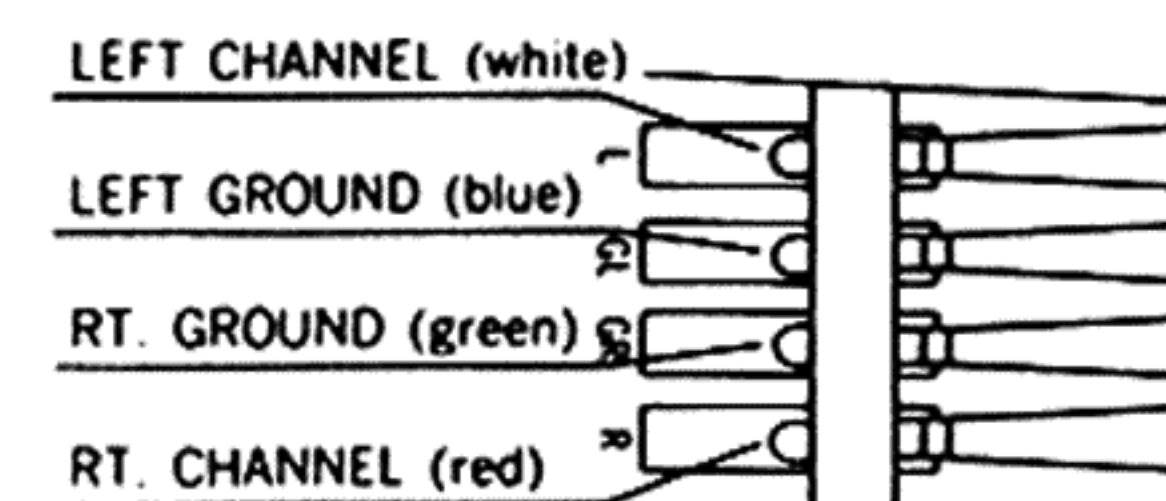

Fig. 34. Cartridge lead connections.
4. Connect each lead on the cartridge holder to its corresponding pin on the cartridge. Each lead is color-coded as shown in Fig. 34.